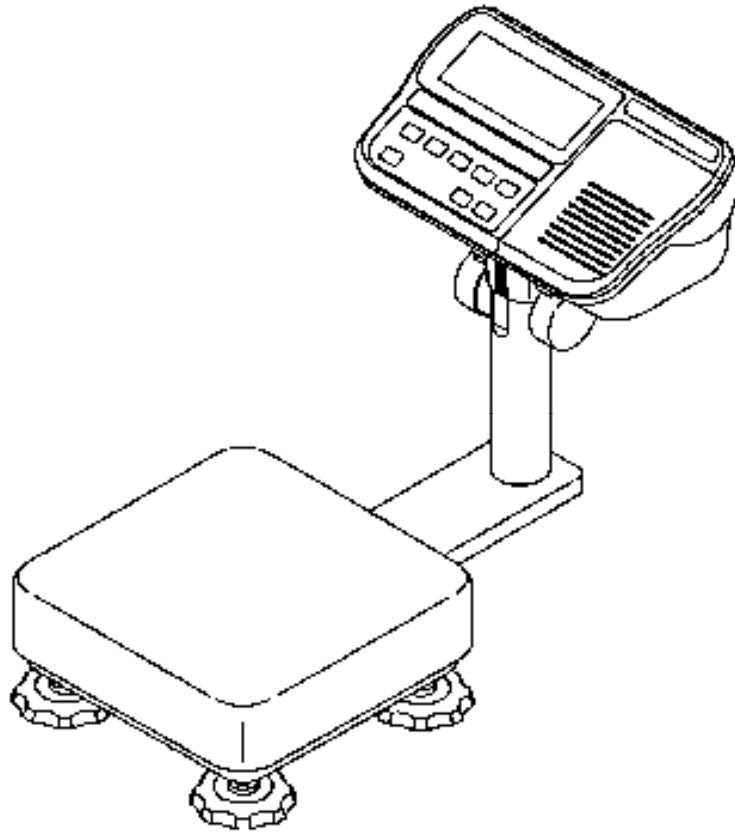

Figure 1 General view HV-15KGL/KGV
The A&D HV-15KGL is a mains powered, Class III, non-automatic, triple range with automatic changeover or triple range, weighing instrument. Its maximum capacity is 15 kg (see Figure 1).
7.1 Having an alternative vacuum florescent display (HV-15KGV) (Figure 1).
- Figure 1 General view HV-15KGL/KGV